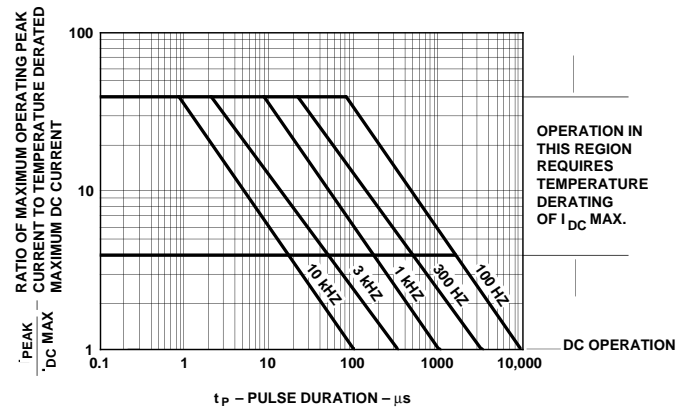

Figure 2. Maximum Allowed Peak Current vs. Pulse Duration – AlGaAs Red.
- See Figure 2 to establish pulsed conditions.